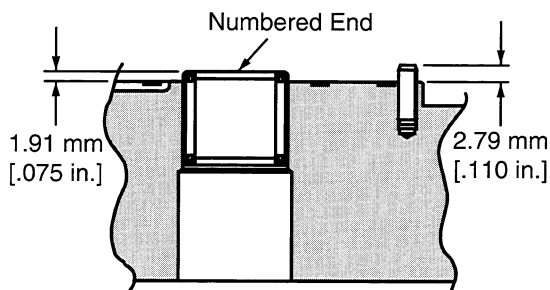

Figure 1-3
- Check the bearing (press fit) in backplate. If needles remain in cage, move freely, and setting is at the dimension shown in figure 1-3, removal not required.
- Check roll pin in backplate. If tight and set to the dimension shown in figure 1-3, removal not required.
**10** If necessary, press new bearing and roll pin in backplate to dimension shown in figure 1-3. Bearing installed with the numbered end outward. Roll pin installed with split oriented away from bearing.